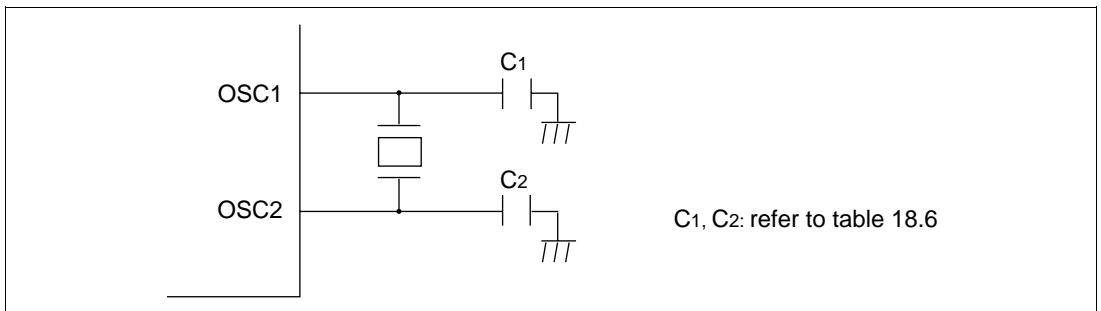

Figure 18.9 Example of Connection of 76.8 kHz/160 kHz Crystal Resonator
(1) Method of Connecting 76.8 kHz/160 kHz Crystal Resonator
To supply a clock to the subclock oscillator, a 76.8 kHz/160 kHz crystal resonator should be connected as shown in figure 18.9. Cautions concerning the connection are as noted in section 18.3 (3), Notes on Board Design.